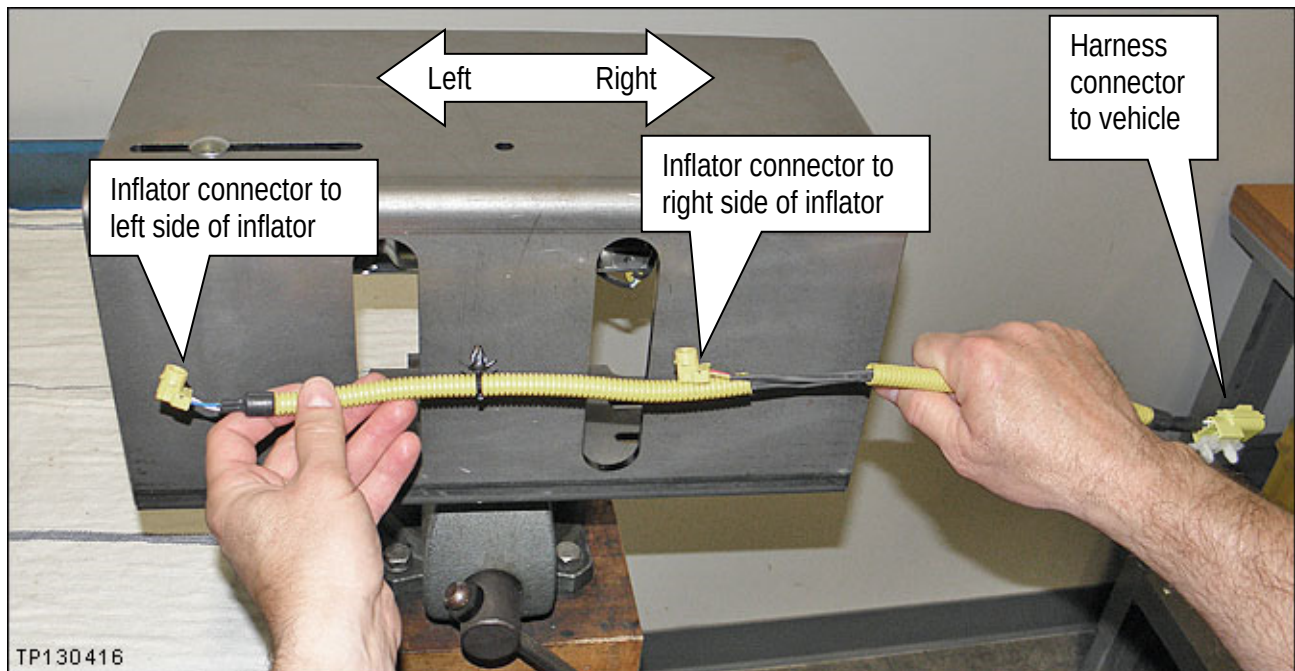

Figure M17
- Make sure to attach the connectors to the correct ends of the inflator (see Figure M17).
- o Left / Right orientation is as shown in Figure M17.
- Make sure to attach the correct ends (see Figure M17 on the previous page).
- Refer to Figures M17, M18, M19, and M20.